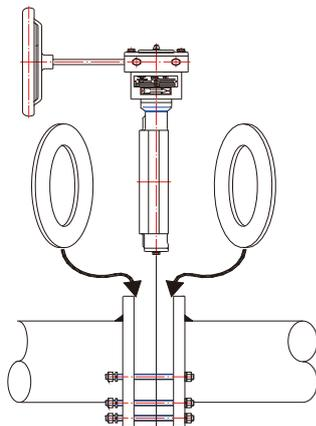

Fig.3
4.5. Install valve and gaskets into pipeline as Fig.3.